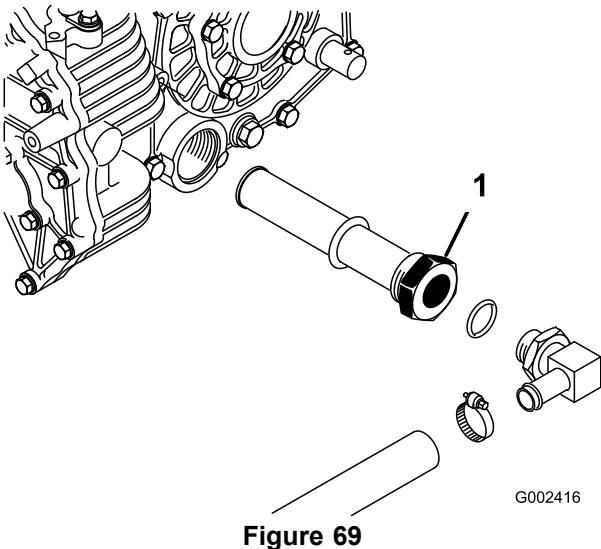

Figure 69
3. Note the orientation of the hydraulic hose and 90 degree fitting connected to the strainer on the side of the reservoir (Figure 69). Remove the hydraulic hose and 90 degree fitting.	4. Remove the strainer and clean it by back flushing it with a clean de-greaser. Allow it to air dry before installing.